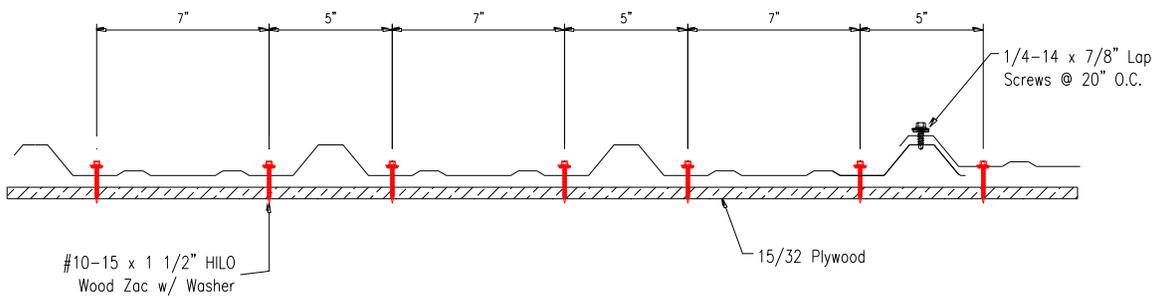

Figure 2. Panel Ends Fastener Pattern
**Panel Ends:** Minimum No. 10-15 x 1 1/2" HiLo WoodZac with sealing washer at 7"-5"-7"-5"-7" fastener pattern. The fasteners shall be long enough to ensure a minimum penetration of 1/4" below the roof deck. Refer to Figure 2 for an illustration of the fastener pattern.